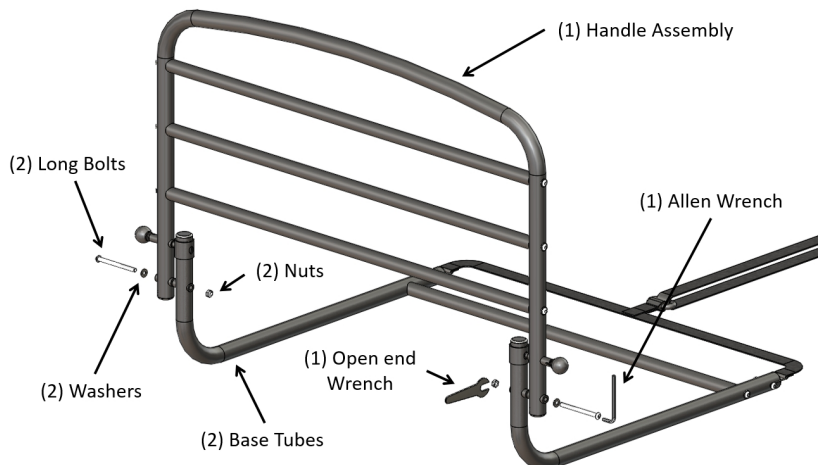

FIGURE 3
3. Using the OPEN END WRENCH and ALLEN WRENCH, secure the HANDLE ASSEMBLY to the BASE TUBES with LONG BOLTS, WASHERS, and NUTS as shown in Figure 3.